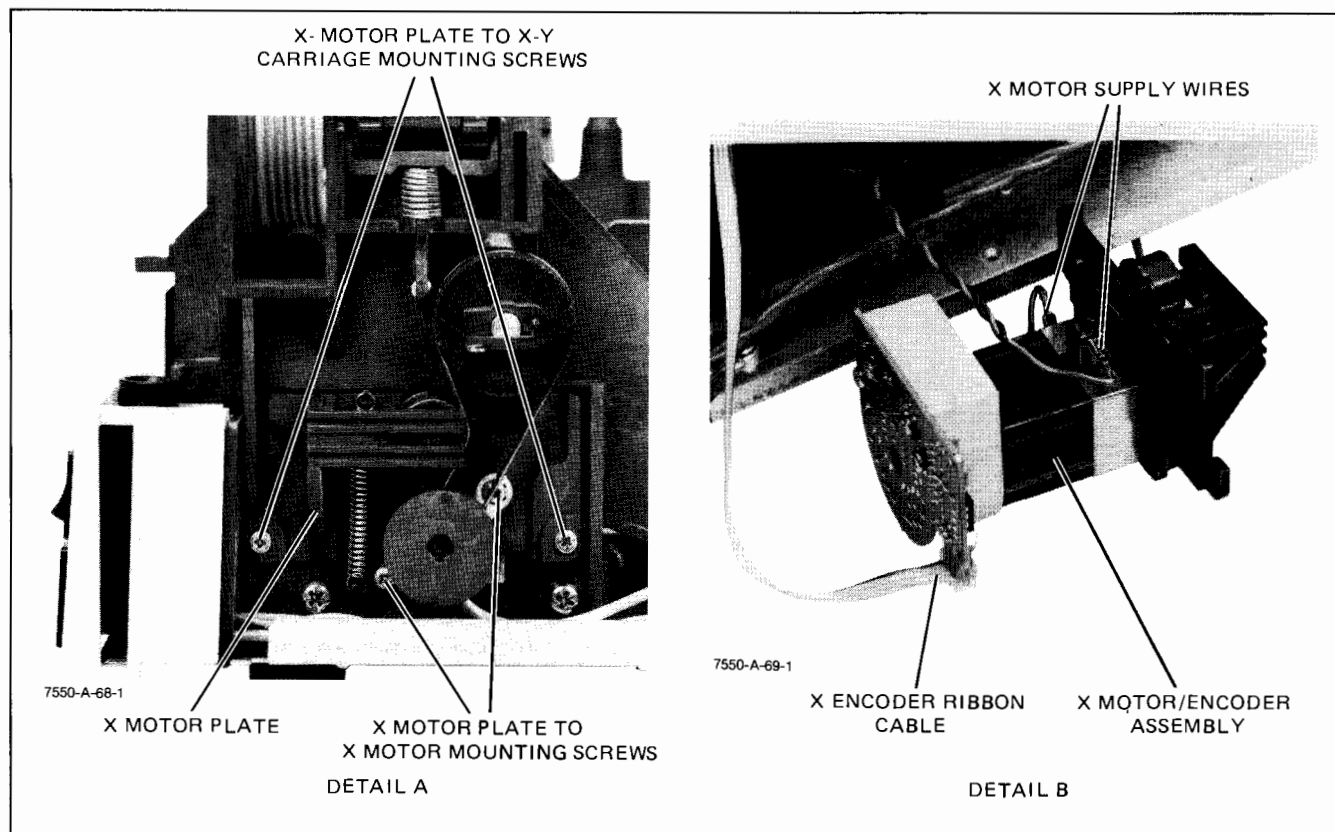

Figure 6-28. X-Drive (Media) Motor/Encoder Removal
- f. Remove the two screws that mount the X-motor plate to the X,Y carriage assembly. See Figure 6-28, Detail A.
- g. Remove the two X-motor plate mounting screws and remove the plate. See Figure 6-28, Detail A.
- j. Disconnect the X-encoder ribbon cable and the X-motor supply wires from the X-motor/encoder assembly. Note the polarity of the wires for reassembly. See Figure 6-28, Detail B.